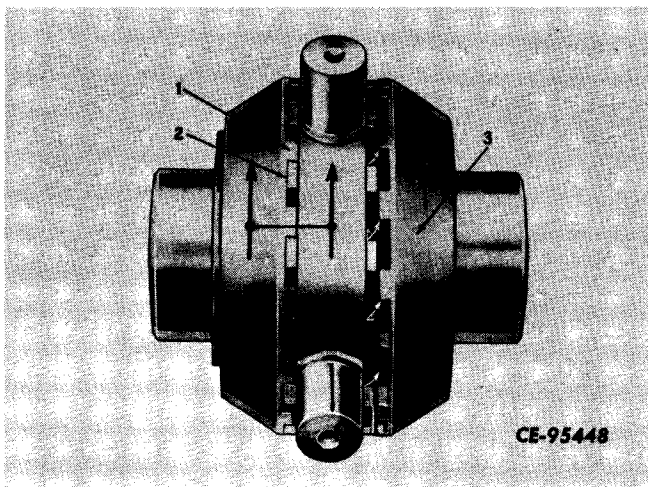

Figure 6-60
When making a turn, differential action is required in order to permit the outside wheel to travel a greater distance, and faster, than the inside wheel. The NoSPIN differential allows either wheel to turn faster than the ring gear, but does not permit either wheel to turn slower than ring gear speed when power is applied. The inside wheel driven clutch teeth (1, Fig. 6-60) remain fully engaged with the spider drive clutch teeth (2) to propel the tractor. The outside wheel, driven by the traction of the road surface, turns faster and in turn causes its driven clutch (3) to turn faster than ring gear speed.